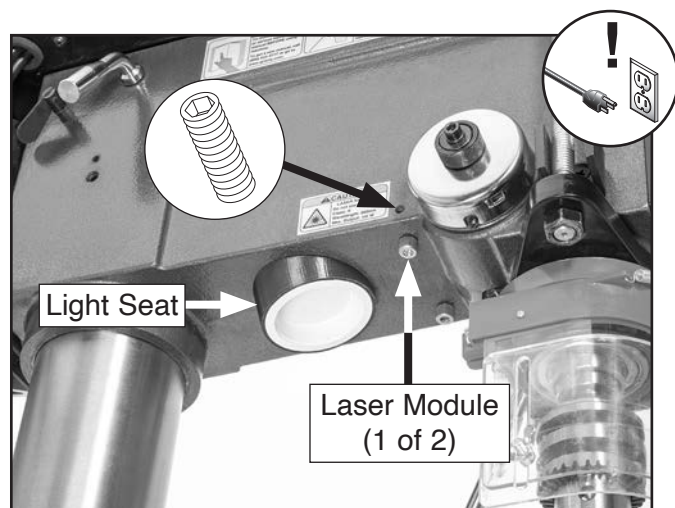

Figure 62. Location of laser modules and light seat.
2. Loosen set screw securing faulty laser module and pull laser module just enough to remove it from headstock (see **Figure 62**).
3. Turn light seat counterclockwise to release LED assembly and pull it down through headstock hole to reveal laser module and LED wires (see **Figure 62**).